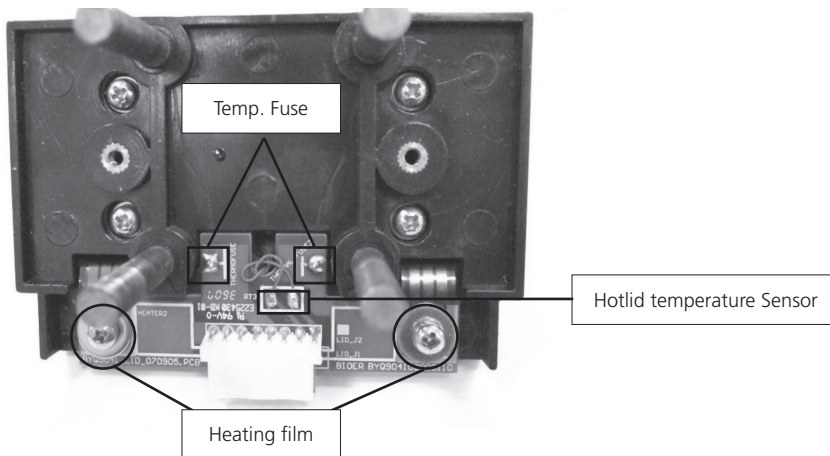

Fig.18
2.4.8 The hot lid is as Fig. 18